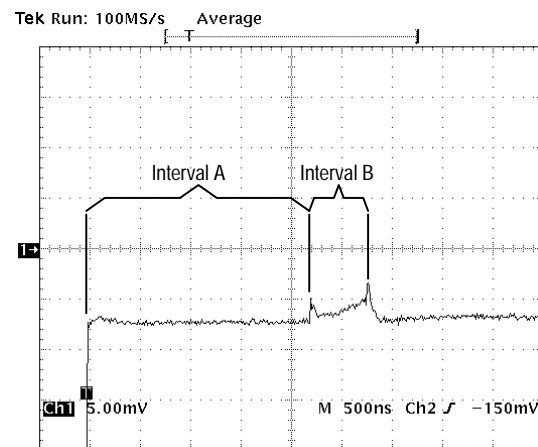

Figure 13: Measuring Timing Intervals
10. Using Figure 13 as a reference, measure the time intervals marked A and B.